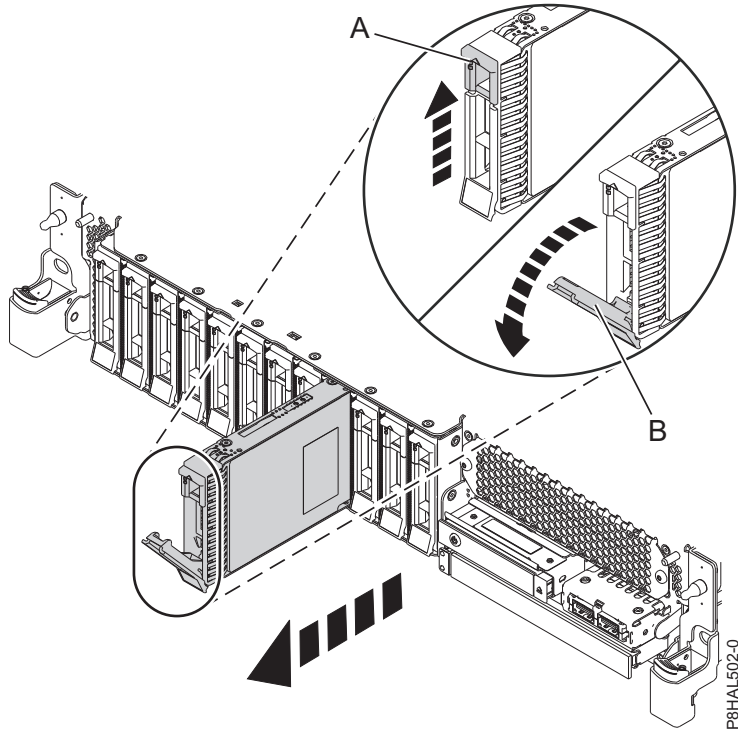
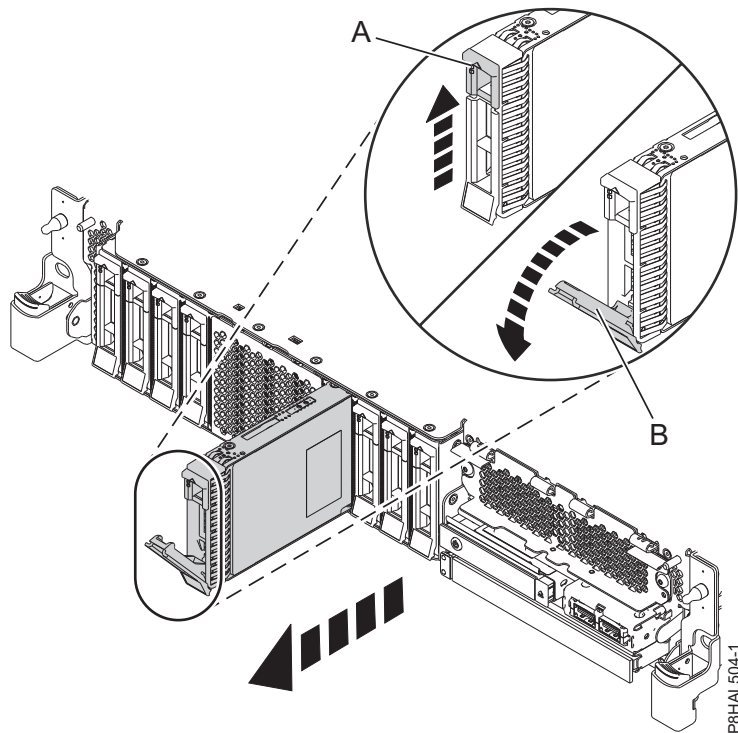

Figure 89. Removing a disk drive from a base function system
Figure 90. Removing a disk drive from an expanded function system
3. When the identify LED flashes, unlock the drive handle (**B**) by pressing the handle latch (**A**) and pulling it out toward you, as shown in Figure 89 on page 89 and Figure 90 on page 89. If the handle is not all the way out, the solid-state drive cannot slide out of the system.